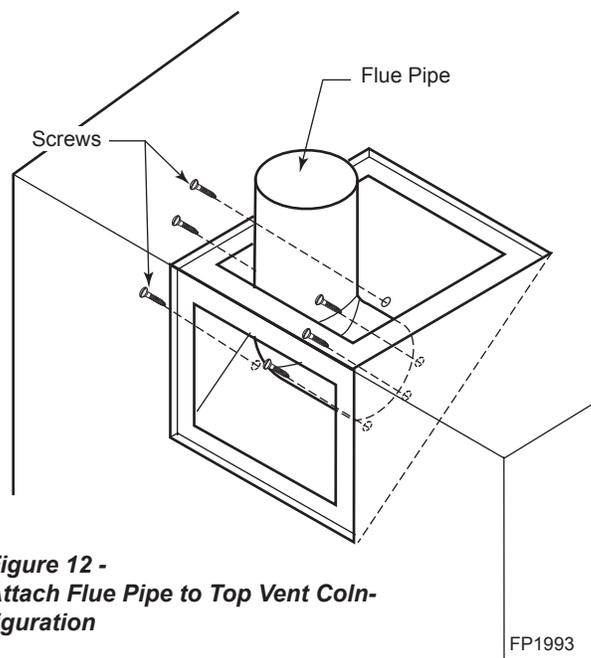

Figure 12 - Attach Flue Pipe to Top Vent Collar
5. Replace flue pipe to top of firebox. Ensure the gasket is in place and undamaged. Secure with eight (8) screws. *Figure 12*
7. Refit the flue pipe adapter and gasket to the top of fireplace. Secure the adapter with eight (8) screws removed in step 1.